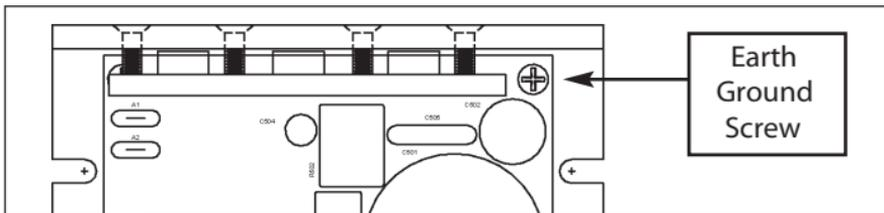

Figure 2. Ground Screw
- Connect earth ground to the earth ground screw attached to the PC board. See Figure 2 for the earth ground screw location.